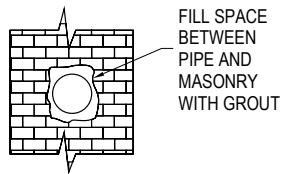

Figure 17
7. Once the horizontal pipe section is in place, the space between the pipe and the masonry may be filled with high temperature grout, as shown in Figure 17, if desired.